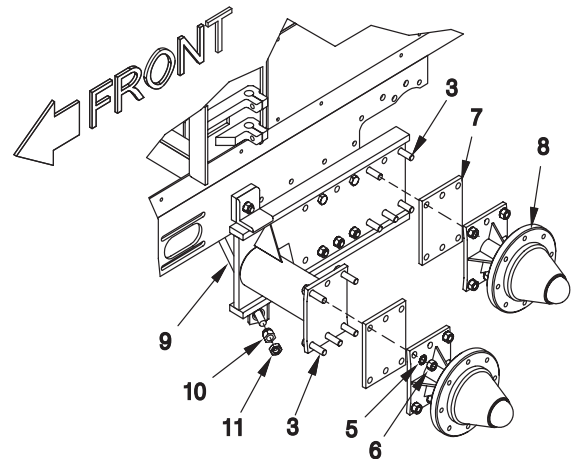

Figure 2-3-4 - Mounting Spacer Plates Hubs & Truss Rod
B. (See Figure 2-3-4) Place (2) Item 7 Spacer Plates on the tandem plate. Place (2) Item 8 Hub and Spindle assemblies as shown. Place all bolts, star washers and nuts so the hub and spindle are secure. Torque all nuts and bolts as per torque chart on page 2-3-1.
C. Before mounting the tires and wheels, place (1) Item 9 Truss Rod as shown in Figure 2-3-4. Secure truss rod finger tight with (2) Item 10 Truss Rod Nuts and (2) Item 11 Jam nuts.